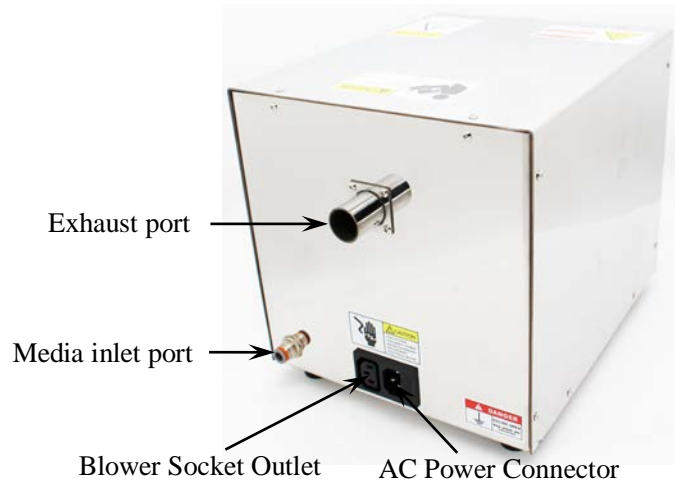

Fig.2 Rear panel instruction
3、Ozone is detected in the environment	<ul style="list-style-type: none">• Make sure the exhaust pipe is normally connected, shown as fig 2.• The sealing rings around the drawer are in good condition and properly installed.